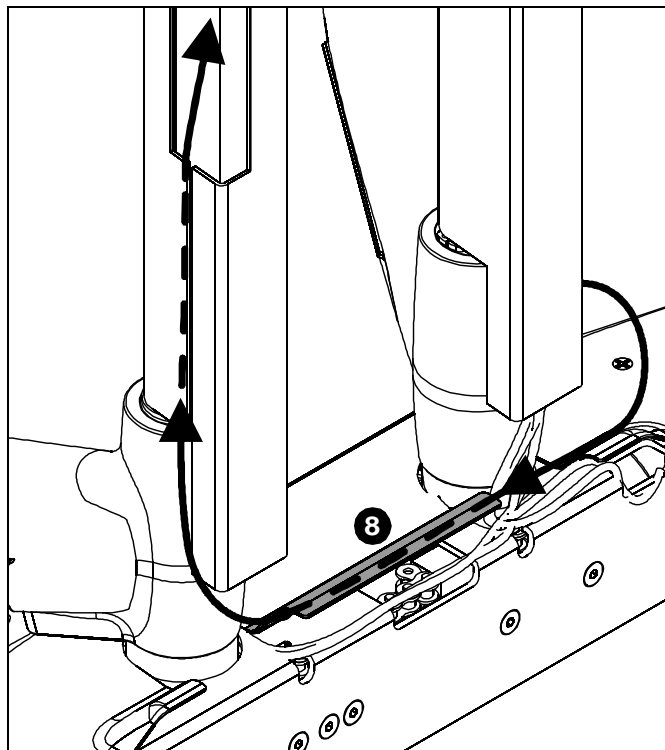

Figure 34
8. If necessary, use cable management flap on PXR base to route cables from left arm to PXR right side. (See Figure 29) and (See Figure 34)